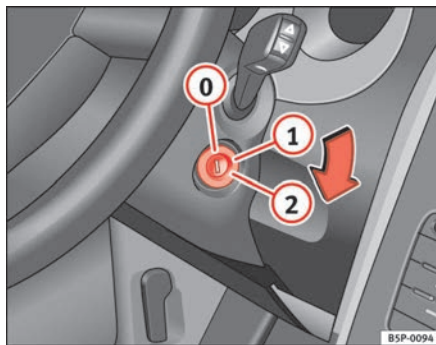

Fig. 136 Ignition key positions
In this position ⇒ fig. 136 the ignition and the engine are OFF and the steering may be locked.
- Turn the ignition key to position ⇒ page 165, fig. 136 ①. The indication lamp  will light for engine pre-heating.
- When the warning lamp turns off, turn the key to position ② to start the engine. Do not press the accelerator.
- Turn the ignition key to position ⇒ page 165, fig. 136 .